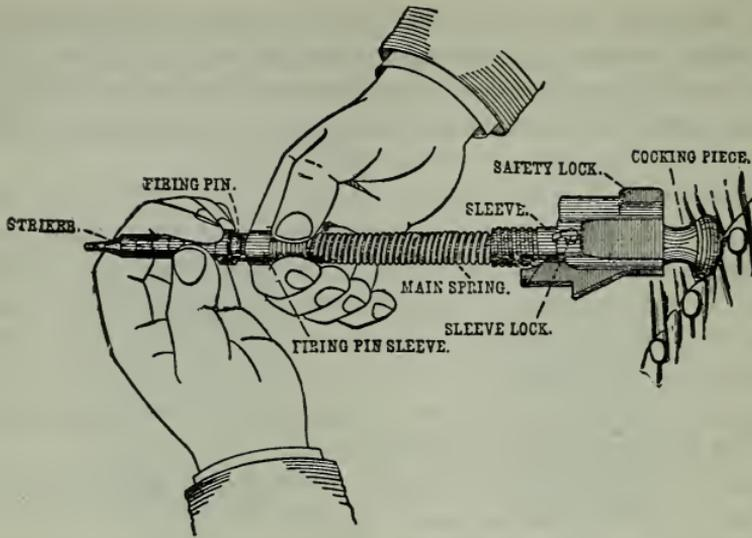

FIG. 42-3—Firing pin and parts.
(2) Hold bolt in left hand, press sleeve lock in with thumb of right hand to unlock sleeve from bolt, and unscrew by turning to the left.
(3) Hold sleeve between forefinger and thumb of the left hand, draw cocking piece back with middle finger and thumb of right hand, turn safety lock down to the left with the forefinger of the right hand to allow the cocking piece to move forward in sleeve, thus partially relieving the tension of mainspring. With the cocking piece against the breast, draw back the firing-pin sleeve with the forefinger and thumb of right hand and hold it in this position while removing the striker with the left hand. Remove firing-pin sleeve and mainspring; pull firing pin out of sleeve; turn safety lock thumb piece to the right on sleeve and draw it to the rear through the groove made in sleeve for this purpose. Turn the extractor to the right, forcing its tongue out of its groove in the front of the bolt, and force the extractor forward and off the bolt (see Fig. 42-3).